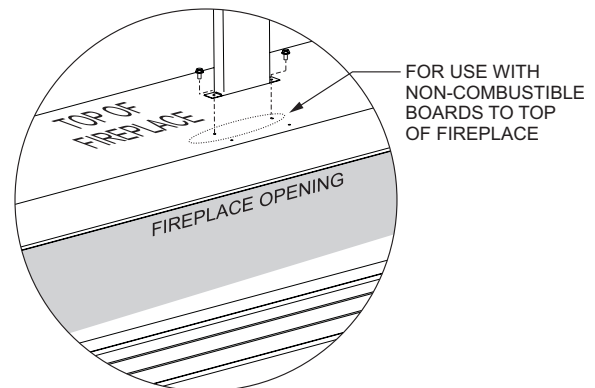

Figure 30 - OPTION 2
- 9b. **OPTION 2** - Secure the brackets to the fireplace top with screws. There are holes located in the top of the fireplace for each standoff bracket. The holes closer to the front edge of the fireplace are for mounting non-combustible board to the top of the fireplace so that tile or stone can cover the face. (Finishing Option 2). See Figure 30.